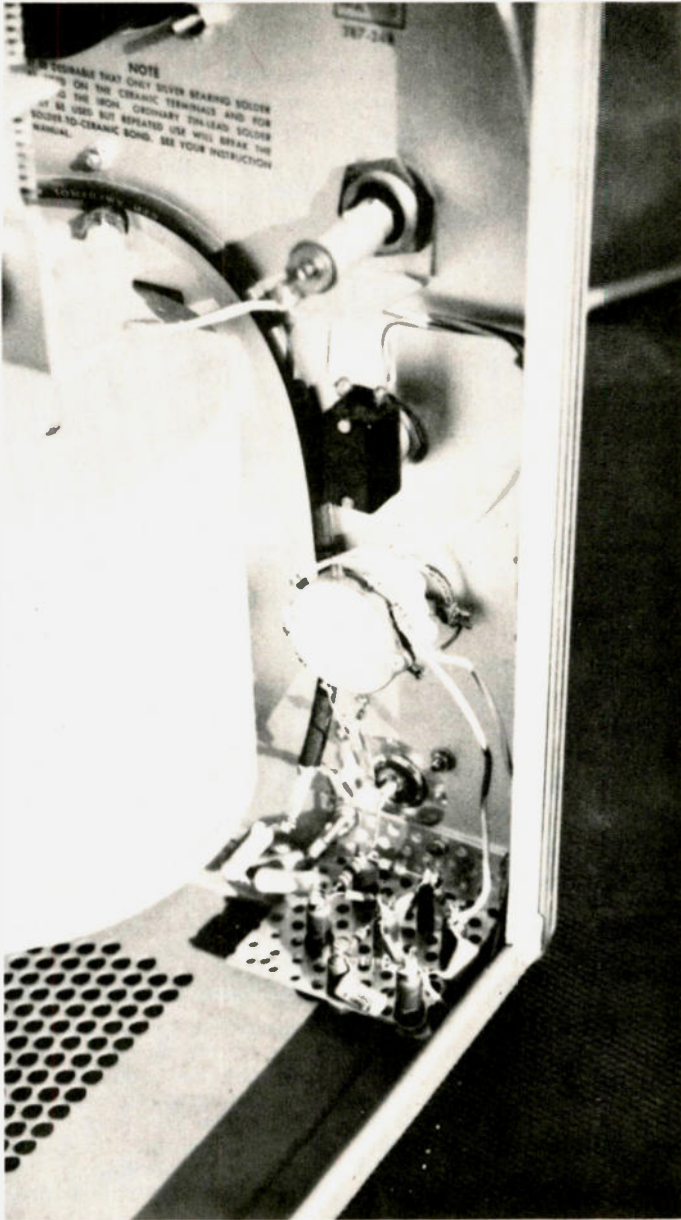

Fig. 3. Location of the resistance bridge and switch S1 inside the generator.
5. Install the resistance bridge in the 190B signal generator as shown in Fig. 3.
11. Install the four-position swr function switch in the 5/16-inch drilled hole, as shown in Fig. 3, and wire to the resistance bridge as shown